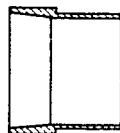

FIGURE 1
When installing the lube and manifold actuated pistons with "Teflon" rings into governor covers/housings, the service tools in Figures 1 thru 4 are required.
1. Manifold Piston Installation Tool TSE 7992 (See Figure 1) is the same as Phase I Tool (See Figure 1 in Section D 330/3001).